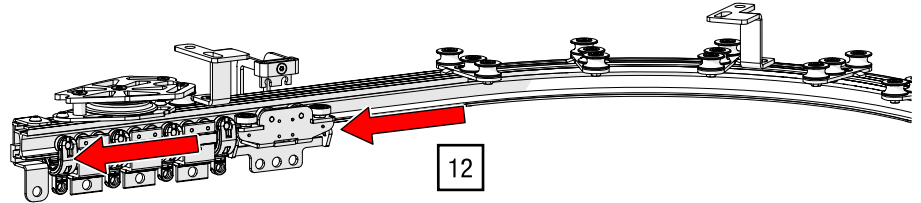

Fig. 95: Top cord operation – Push the trolleys together
12. In the case of a two-part curtain, push the runner and master runner together as far as possible in the stowage area on each side (see Fig. 95).